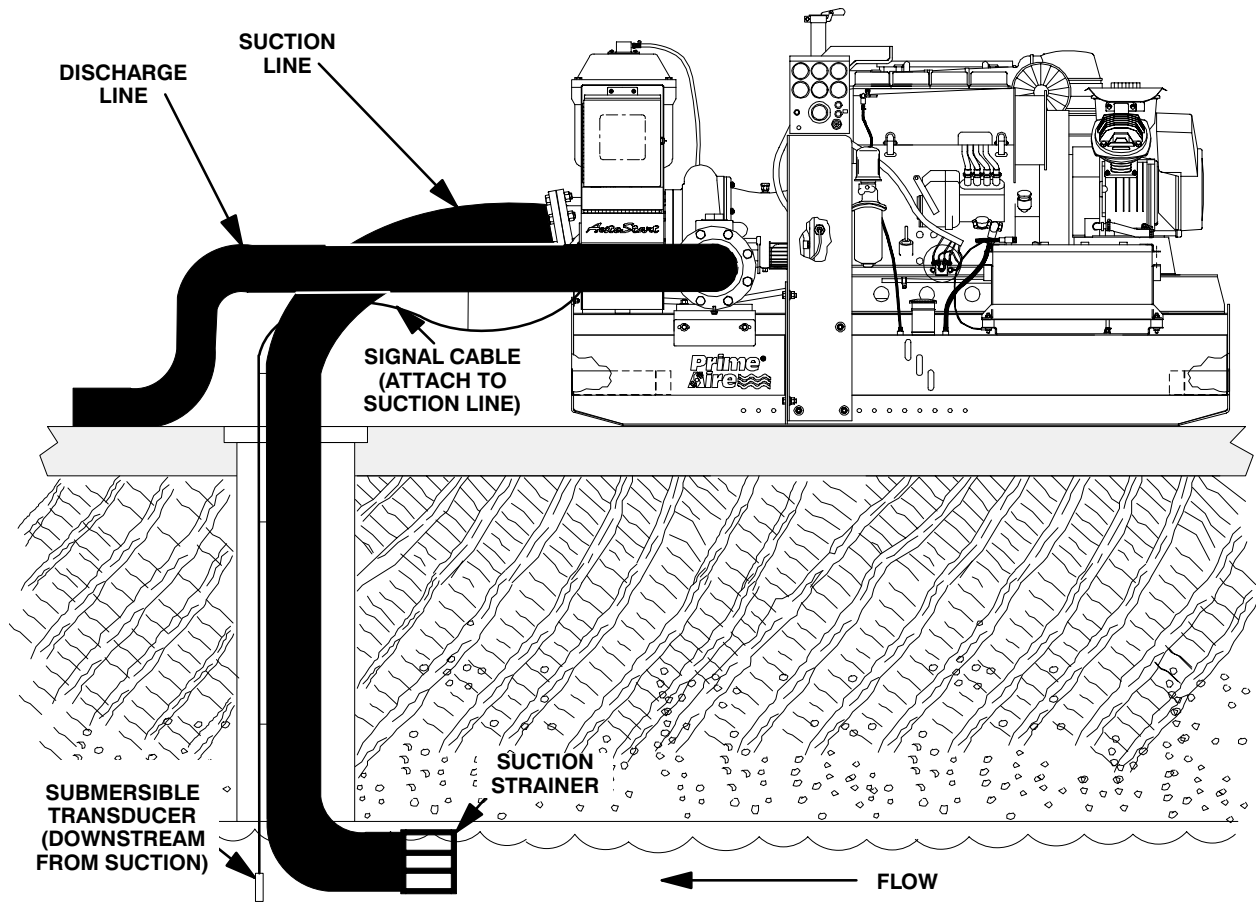

Figure 5. Typical Submersible Transducer AutoStart Pump Installation
- b. **Be sure** to provide sufficient room in the wet well or sump so that the sensor does not get drawn into the suction line. To prevent this, a flexible suction hose may be extended to lay along the bottom of the wet well or sump. The sensor can then be attached to the hose above the point where it bends along the bottom. See Figure 5 for a typical installation.